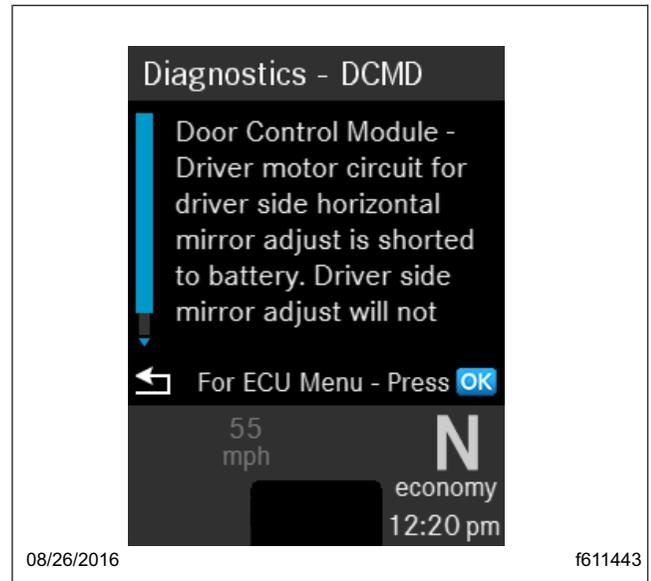

Fig. 11.4, Additional Information for the Fault
4. Press OK again to access additional information. See Fig. 11.4.